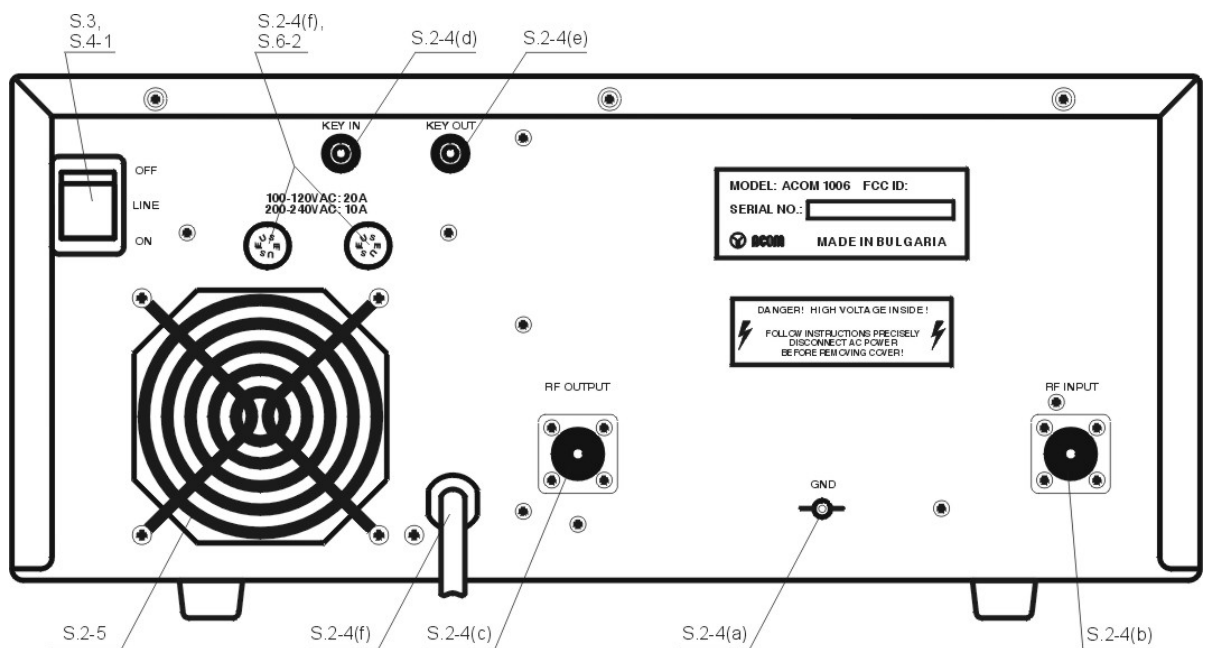

Fig 2-1 Connections
a) First, connect the ground stud of the amplifier (on the rear panel, marked GND) to the station's grounding system (Fig.2-1).
This fan (Fig. 2-1) is not necessary in SSB and CW modes, nor in continuous carrier modes (RTTY, SSTV etc.) with transmission times of maximum 15 minutes and a subsequent pause of 3 minutes or longer. For higher duties or ambient temperatures the fan is recommended. The auxiliary fan (92x92mm) must be brushless type, 2...5W/24VDC. It may be installed by your dealer or by the manufacturer on request.
After following all instructions in S.2, you can turn ON the main power switch marked "LINE" on the rear panel (Fig.2-1). The LED indicator above the red ON/OFF button (located on the front panel) must light red and a black inscription "ACOM1006" will appear on the LCD (Fig.3-1):